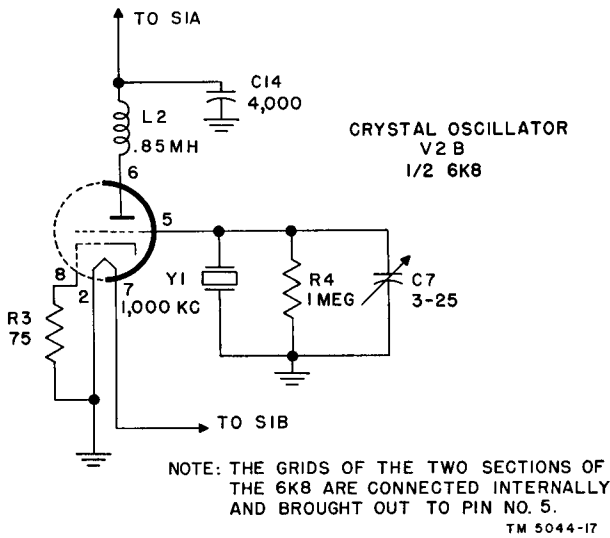

Figure 14. Crystal oscillator, simplified schematic.
a. The crystal oscillator circuit (fig. 14) uses the triode section of tube 6K8. It can be switched in and out of operation without affecting the rest of the circuit. This is done by applying or removing the plate potential.